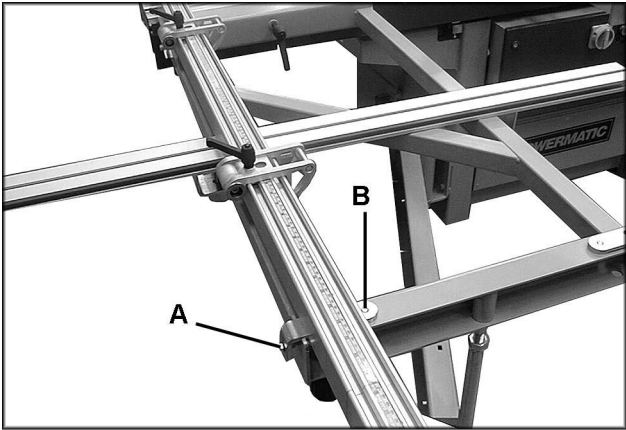

FIGURE 26
1. Loosen the two bolts (A-Fig. 26).
2. Turn bolt (B-Fig. 26) to open or close the angle of the fence in relation to the saw blade.
3. Re-tighten bolts (A-Fig. 26).